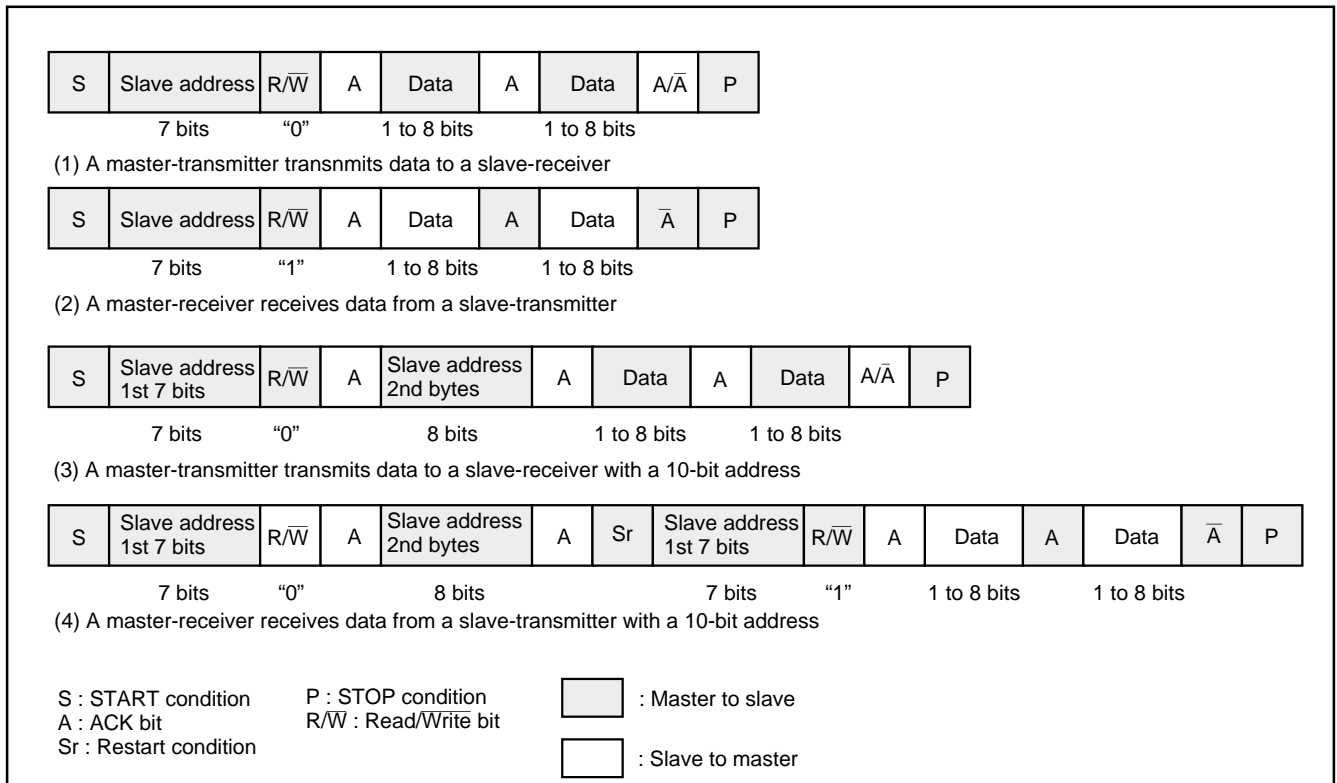

Fig. 36 Address data communication format
(1) 7-bit addressing format
To adapt the 7-bit addressing format, set the 10BIT SAD bit of the I²C control register (address 002E16) to "0". The first 7-bit address data transmitted from the master is compared with the high-order 7-bit slave address stored in the I²C address register (address 002C16). At the time of this comparison, address comparison of the RWB bit of the I²C address register (address 002C16) is not performed. For the data transmission format when the 7-bit addressing format is selected, refer to Figure 36, (1) and (2).
(2) 10-bit addressing format
When the first-byte address data agree with the slave address, the AAS bit of the I²C status register (address 002D16) is set to "1". After the second-byte address data is stored into the I²C data shift register (address 002B16), perform an address comparison between the second-byte data and the slave address by software. When the address data of the 2 bytes agree with the slave address, set the RWB bit of the I²C address register (address 002C16) to "1" by software. This processing can make the 7-bit slave address and R/W data agree, which are received after a RESTART condition is detected, with the value of the I²C address register (address 002C16). For the data transmission format when the 10-bit addressing format is selected, refer to Figure 36, (3) and (4).